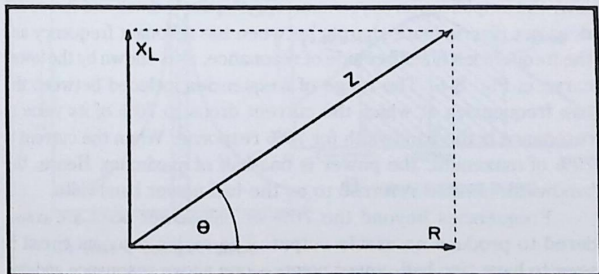

Fig. 8-5. Impedance triangle.
In terms of the impedance triangle in Fig. 8-5, Q is equal to the tangent of the phase angle between the hypotenuse (Z) and base (R).